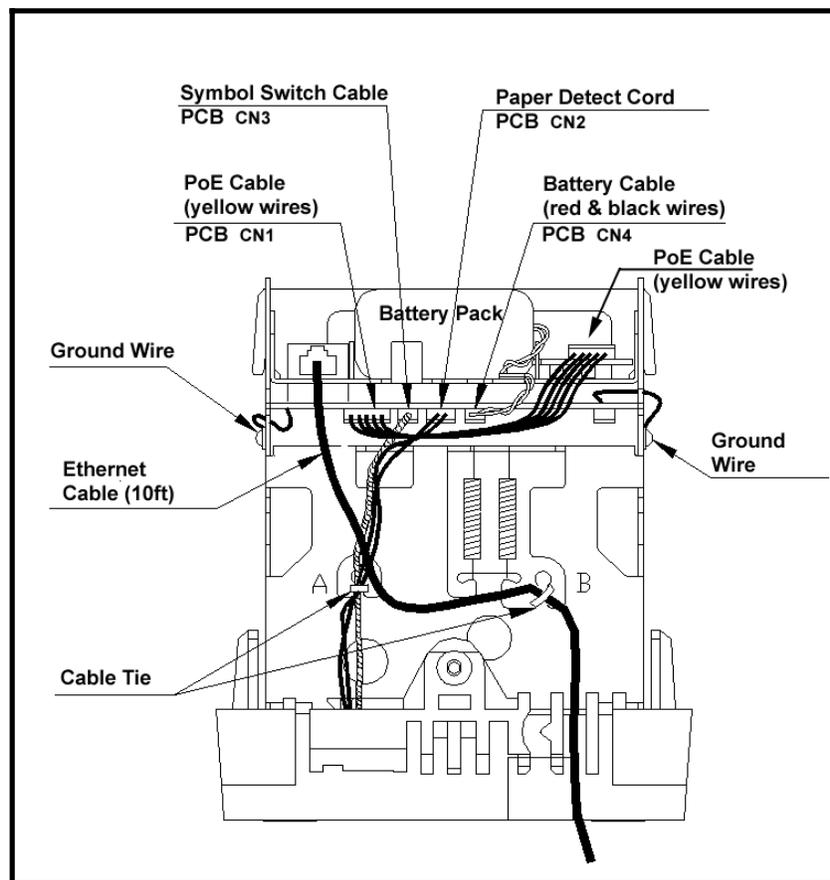

Figure 2-13: Rear View Showing PoE & FPR Cables/Connections
Step 12. Plug in the FPR battery pack cable (the connector with the black and red wires) into the small open connector (see *Figure 2-13*) located just under the battery pack on the PCB. Next, plug in the PoE connector to the left of the FPR connector for the PoE cable (yellow wires). It is keyed and can only fit into the connector one way. The connection for the PoE cable has a 6-pin connector on the main PCB and a 5-pin connector at the PoE PCB. Both connector ends are keyed (can only fit in one way). You may have to temporarily remove the connector on the PoE PCB to install the top plate.